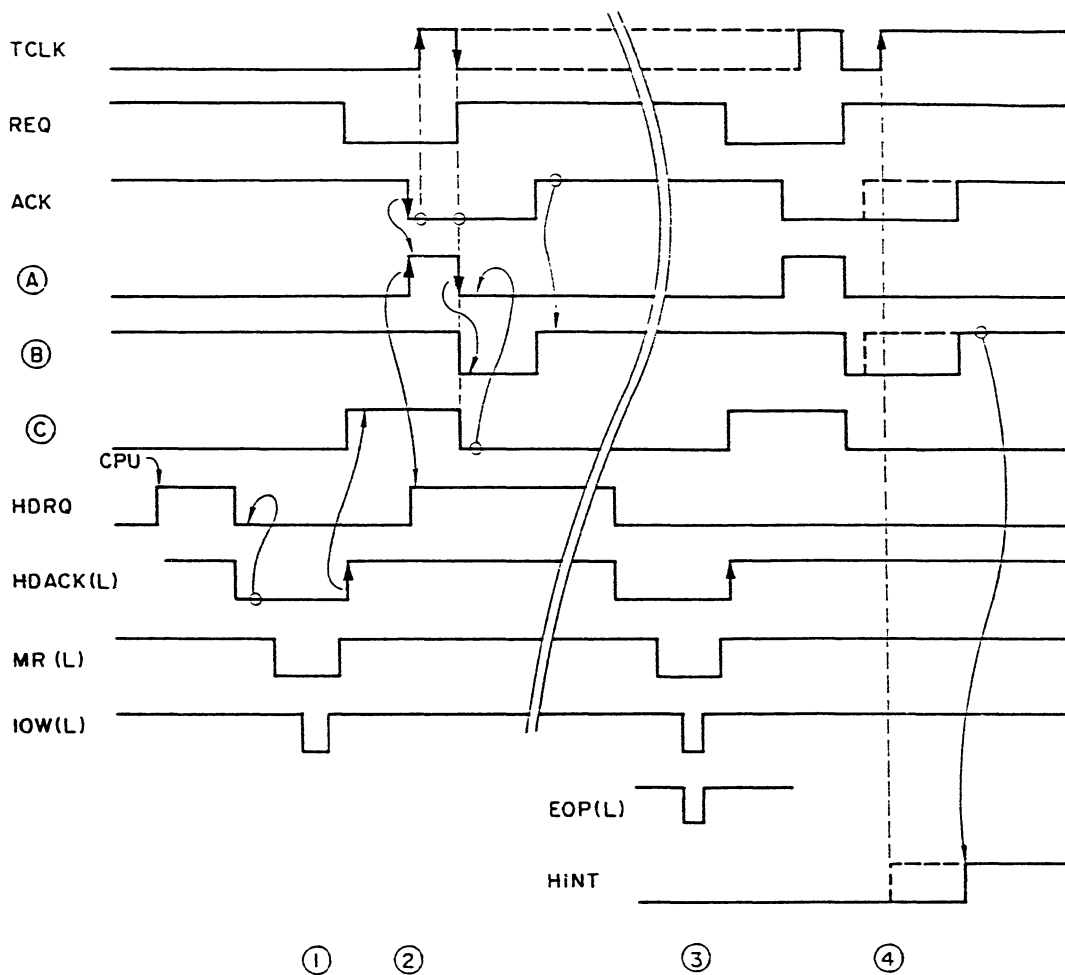

Fig. 324 Read data transfer timing
(4) Read data transfer
This timing is nearly the same as in the write data transfer. The beginning HDRQ of each data block is set by an instruction from CPU. The beginning REQ is outputted by DACK(L) with respect to the above. Fig. 324 shows the read data transfer timing.